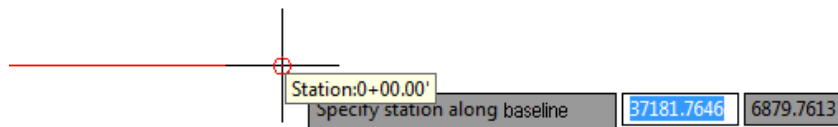

Figure 2-53 A tooltip showing the first station
4. As you move the cursor over the alignment, a tooltip showing the first stations is displayed, as shown in Figure 2-53. Zoom in to view the alignment and click on **0+00** at the start of the alignment. Now you are prompted to specify the offset distance.